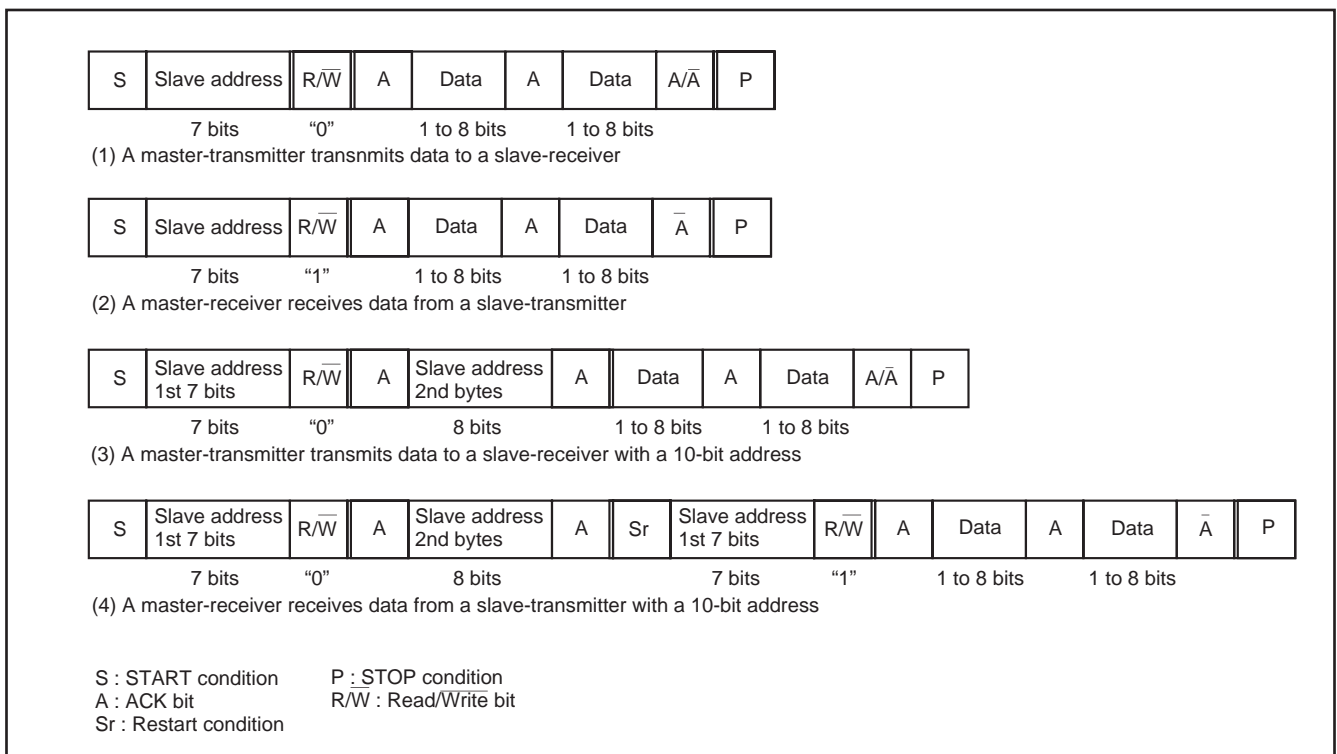

Fig. 45 Address data communication format
① 7-bit addressing format
To adapt the 7-bit addressing format, set the 10BIT SAD bit of the I²C control register (address 0015₁₆) to "0." The first 7-bit address data transmitted from the master is compared with the high-order 7-bit slave address stored in the I²C address register (address 0013₁₆). At the time of this comparison, address comparison of the RBW bit of the I²C address register (address 0013₁₆) is not performed. For the data transmission format when the 7-bit addressing format is selected, refer to Figure 45, (1) and (2).
② 10-bit addressing format
When the first-byte address data agree with the slave address, the AAS bit of the I²C status register (address 0014₁₆) is set to "1." After the second-byte address data is stored into the I²C data shift register (address 0012₁₆), perform an address comparison between the second-byte data and the slave address by software. When the address data of the 2 bytes agree with the slave address, set the RBW bit of the I²C address register (address 0013₁₆) to "1" by software. This processing can make the 7-bit slave address and R/W data agree, which are received after a RESTART condition is detected, with the value of the I²C address register (address 0013₁₆). For the data transmission format when the 10-bit addressing format is selected, refer to Figure 45, (3) and (4).